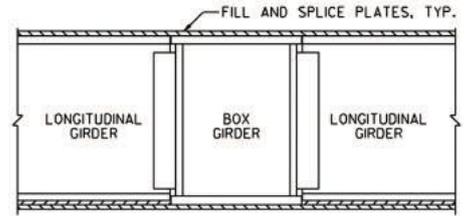

Fig. 1.
- 1 Two options for framing longitudinal girders to steel bent caps are depicted in Figures 1 and 2. Which of the following statements is true regarding these framing options?
- a. The framing option in Figure 1 is not recommended.